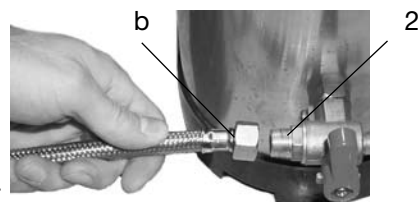

Figure 4
- 2) Connect the pipe **b** for internal pump suction to the tap **2** of the water softener (figure 4).